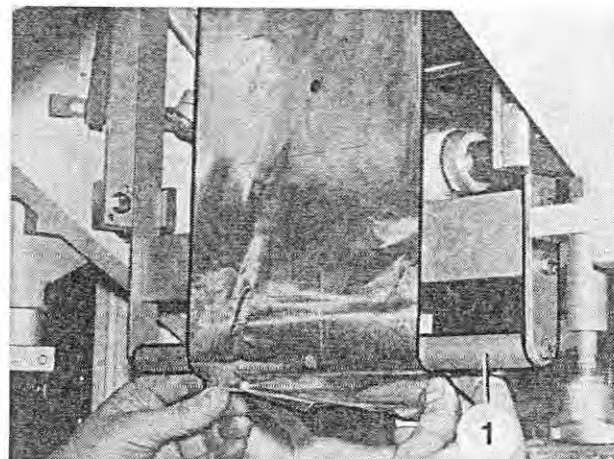

Fig. 102
16. When machines with a thermal or an ink printer are used, thread the wrapper downwards, around the reversing roller (Figure 102/1) and then upwards again.